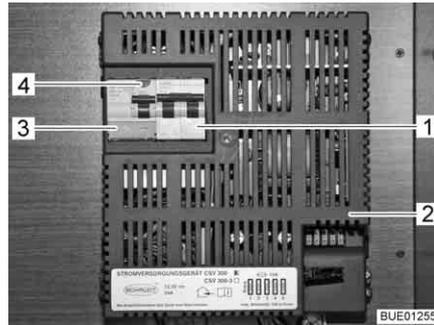

Fig. 130 230 V automatic circuit breaker and FI-switch (CSV 300)
A fault current protection switch (FI-switch) (Fig. 130,3) in the power supply unit CSV 300 (Fig. 130,2) protects the complete vehicle from fault current (0.03 A).
A downstream two-pole safety cut-out (Fig. 130,1) in the power supply unit protects the 230 V power supply.
- When the vehicle is connected to the 230 V power supply, press the test button (Fig. 130,4). The fault current protection switch (FI-switch) must trip.